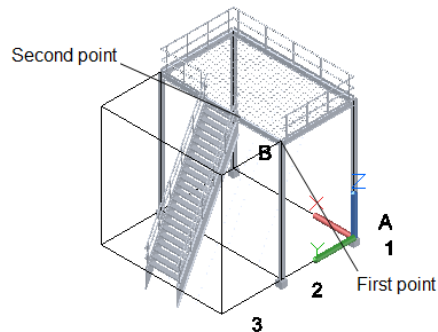
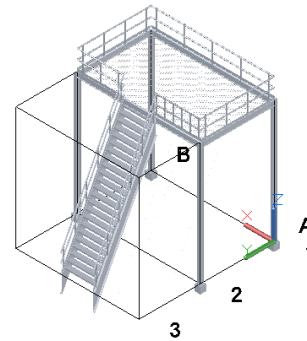

Figure 3-49 Points to be selected to create the railing
Figure 3-50 Model after adding railing
- Invoke the **Railing** tool again and select the start and end point, as shown in Figure 3-49. The model after adding the railing is shown in Figure 3-50.